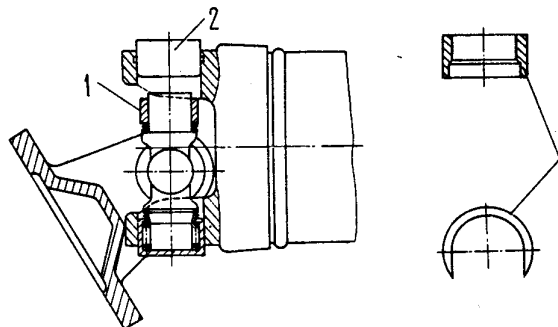

Fig. 3-54. Mounting Bushing for Disassembling Universal Joint: 1 - bushing; 2 - cross bearing
- turn the universal joint yoke through 180° and repeat the above operations, i.e. shift the other end of the yoke to thrust against the cross. When carrying out these operations, the opposite bearing of the cross will partially come out of the hole in the yoke and bushing 1 (Fig. 3-54) with a cut on the side can be installed into the clearance between the yoke and the cross to press out the bearing completely;
- install bushing 1 (Fig. 3-54) onto the cross trunnion and move the universal joint yoke down to press out bearing 2;
Check whether the plug in yoke 5 (Fig. 3-54) is not missing and examine holder 7 and slip yoke gland 6. Replace the gland, if necessary, and the holder, if it is damaged.